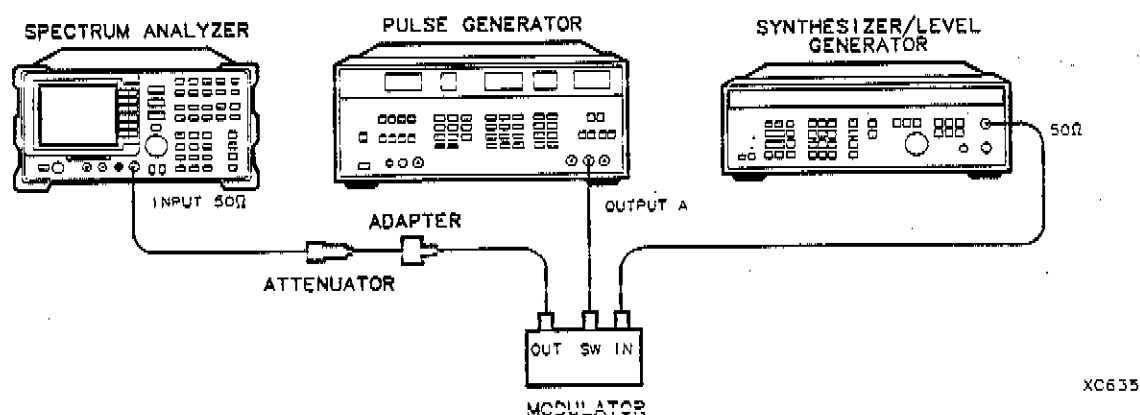

Figure 1-36. Isolation Check Test Setup
11. Connect the equipment as shown in Figure 1-36.